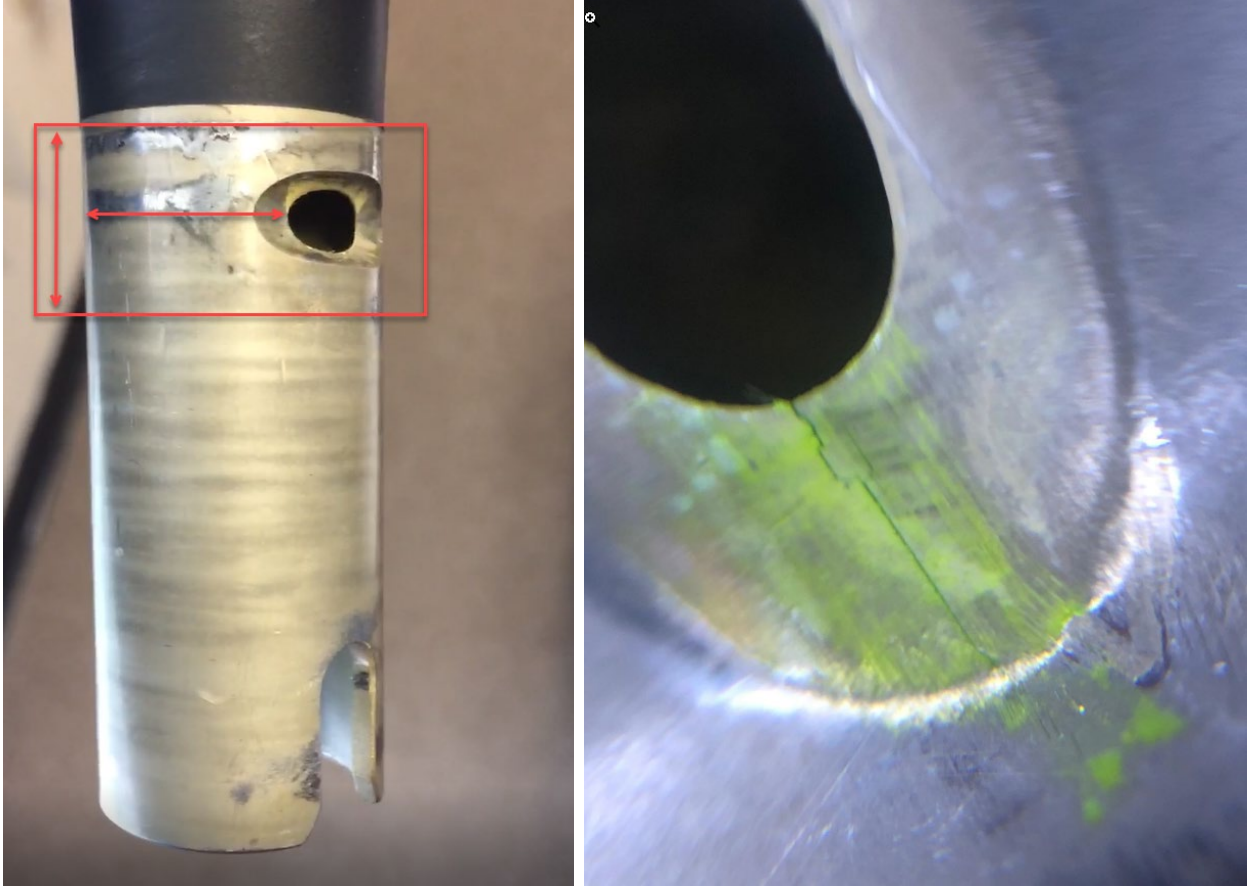

FIGURE 2 - Inspect Complete Circumference in Areas Identified
4. Clean pilot collective stick and grip assembly at areas identified (Figure 2) with a clean cloth (C-516) moistened with dry-cleaning solvent (C-304) or equivalent.
5. Using a 10X power magnifying glass and strong light source, inspect complete circumference of the pilot collective stick and grip assembly at the areas identified (Figure 2).